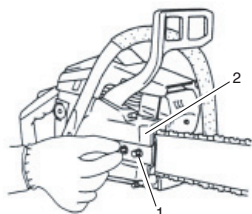

Fig. 1
1. Remove chain bar clamp nuts (1).
2. Remove the side case (2) as pinching the rear part of the side case (2). (Fig. 1)
6. Install the side case (2) onto the bolts (5). Then tighten the clamp nuts (1) temporarily. (Fig. 1)